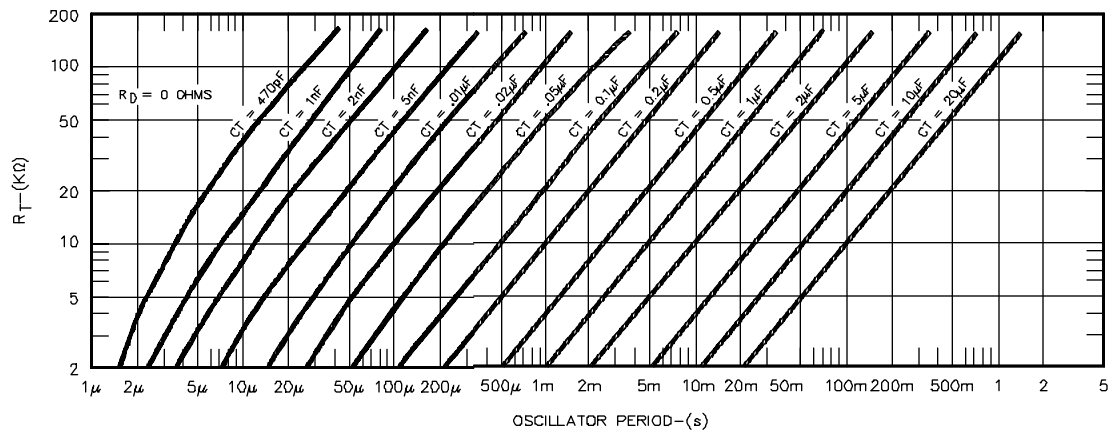

FIGURE 7.
1. With  $R_D = 0\Omega$  (pin 11 shorted to ground) select values for  $R_T$  and  $C_T$  from Figure 7 to give the desired oscillator period. Remember that the frequency at each driver output is half the oscillator frequency, and the frequency at the  $+V_C$  terminal is the same as the oscillator frequency.